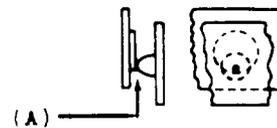

Fig. 1
- *2.03 Contact Alignment - Fig. 1 (A) - The contacts shall line up so that the point of contact falls wholly within the boundary of the opposing contact. Gauge by eye.